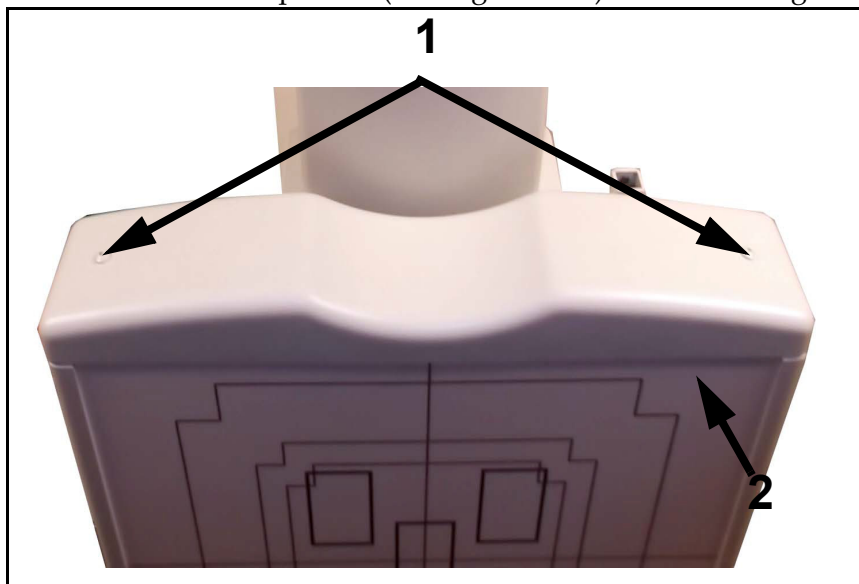

Figure E-41. Top Cover Reattachment
- 50** Reinstall top cover (2 in Figure E-41) with mounting screws (1).